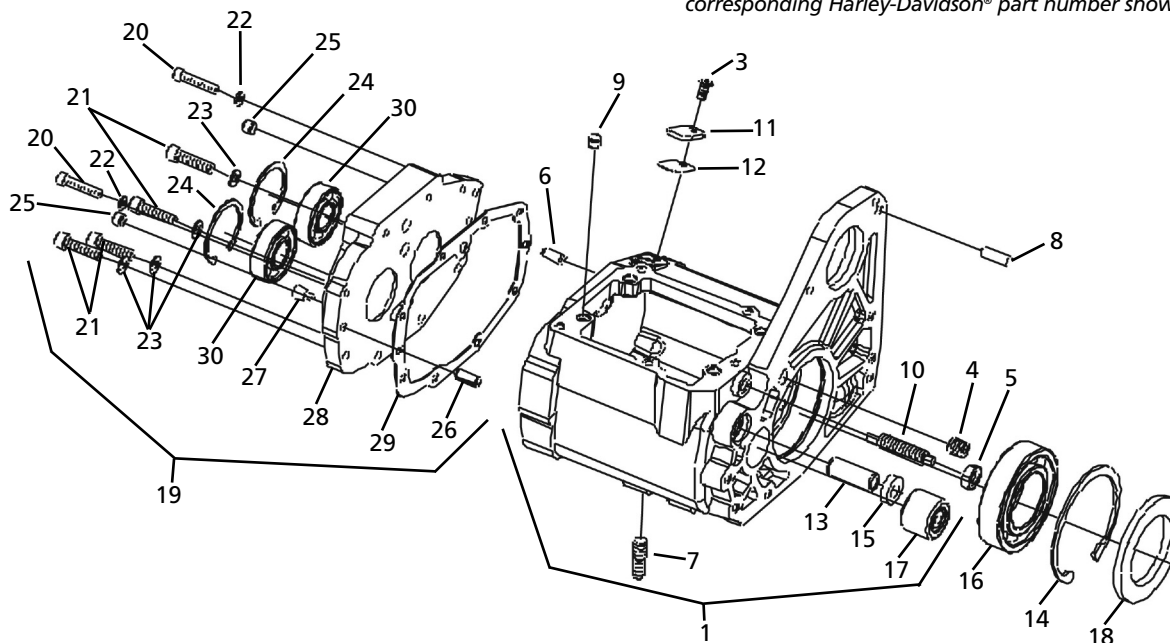

Figure 2
2. Remove dowel pin 50-8171 (Item 8, Figure 2)
- Several differences exist between Harley-Davidson® 5-speed transmissions of certain year groups. Most common differences are between shifter cams, main drive gears, sprockets, spacers, and seals. Correct parts must be used for each year group and transmission must be assembled according to Harley-Davidson® Service Manual for appropriate model year. Shift lever adjuster screw 56-1002 (See Figure 2) will require adjustment after transmission assembly/installation and before operation of motorcycle. See Harley-Davidson® Service Manual for further information. After adjustment, secure screw with hex-head nut 50-5044. See Figure 2.